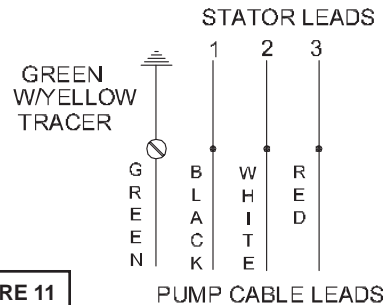

FIGURE 11
To assemble discharge case (22) to stator/frame assembly, set the assembly in the upright position. Make sure all stator leads are properly identified (See Figure 11). Each lead should be color coded or numbered for identification. Apply a grease to o-rings (19) and (20) and place on discharge case (22).
Slide cable grip nut (2b), cable grip (2c), bushing (2d) and cable gland (2e) with o-rings (25) onto cable (2a), and expose approximately 3" of wire at the end of the cable. Attach ground screw (33) with ground wire (Green) to the inside of terminal cavity in discharge case (22). Make wire connections in accordance to Figure 11 using connectors (29) and then tape each connector individually with electrical tape. Fold and insert the connectors and wires into the terminal box cavity. Insert capscrews (28) with washers (30) and tighten to 5 Ft. Lbs.